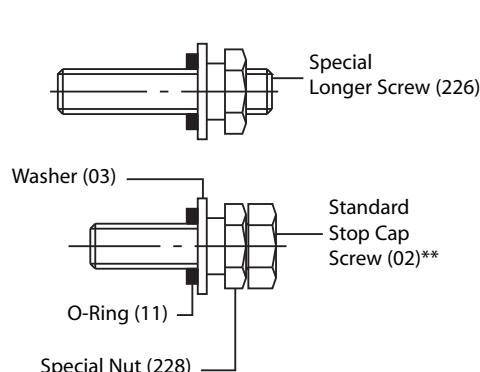

Figure 20
- B. Insert on the special longer screw (226) and standard stop cap screws (02) the special nut (228), the washer (03) and the O-ring (11) shown in (Figure 20).